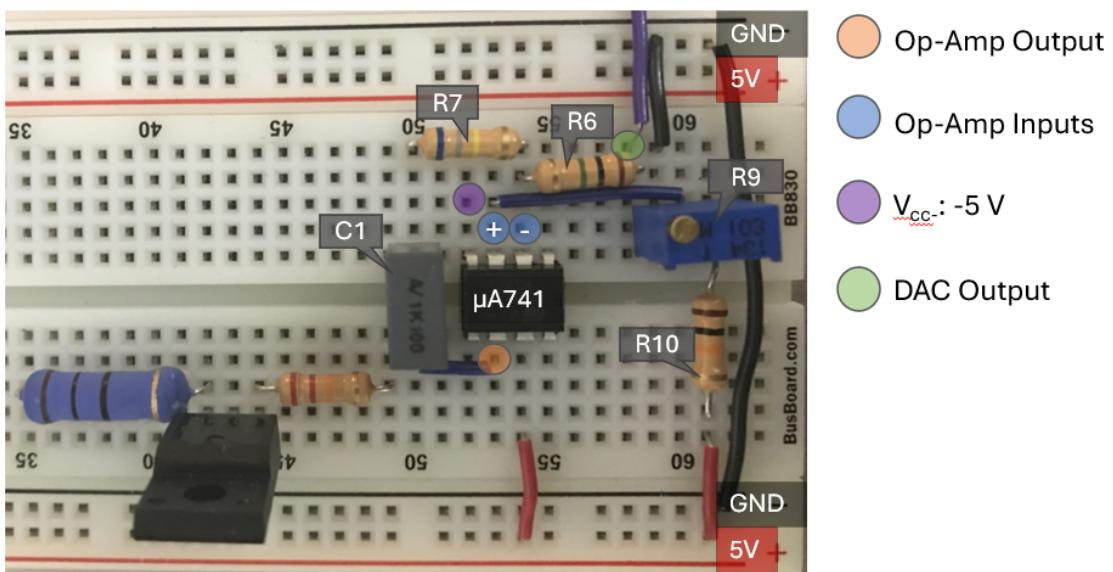

Figure 26: Circuit setup of error signal amplifier on breadboard
- I set up the error signal amplifier circuit like in Figure 26